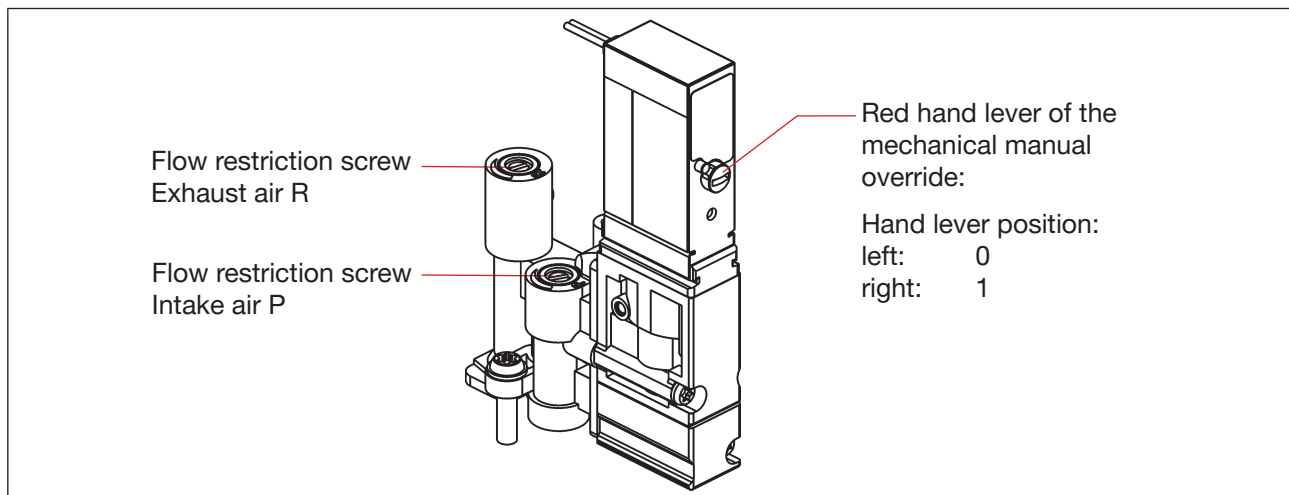

Fig. 13: Flow restriction screws and mechanical manual override of the solenoid valves
The flow restriction screws of the solenoid valves (see “Fig. 13”) are used for setting the air intake and exhaust for the working connections and thus also for setting the opening and closing speed of the process valve:
- Observing the safety guidelines, activate the respective valve location (V1, V2 or V3) to be set (either using the system control (PC service programm or Bürkert Communicator) or the respective manual overrides on the solenoid valve - “Fig. 13”).